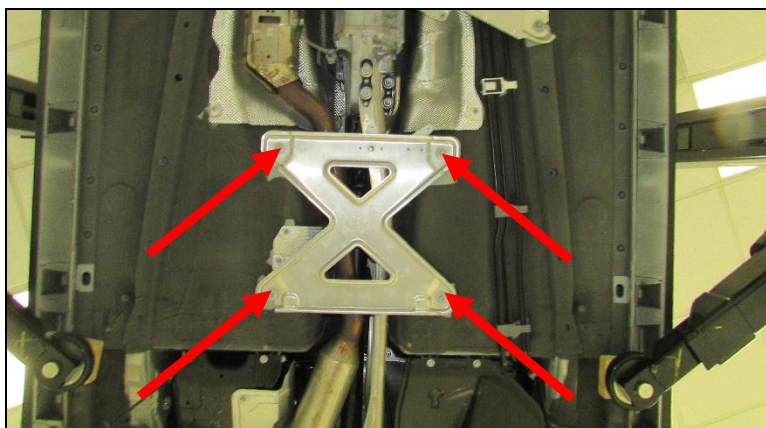

Figure 3
6. Remove the (x4) 12mm head nuts to remove the factory cross brace (**Figure 3**).